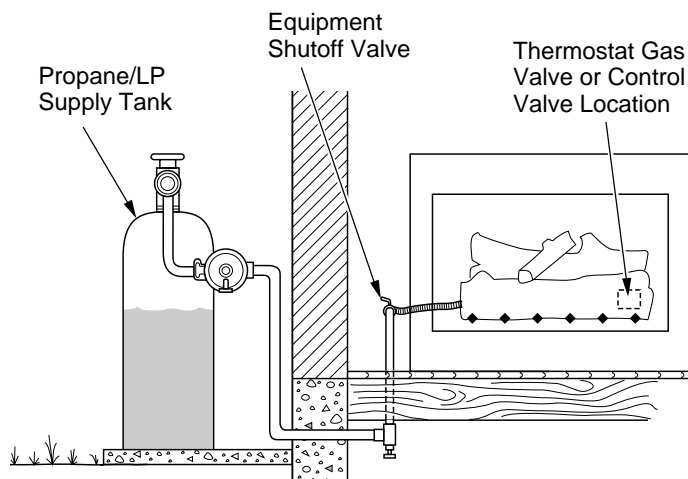

Figure 20 - Checking Gas Joints (Propane/LP Model Shown)
3. Check all joints from gas meter to equipment shutoff valve for natural gas or propane/LP supply to equipment shutoff valve for propane/LP (see Figures 20 and 21, page 15). Apply non-corrosive leak detection fluid to all joints. Bubbles forming show a leak.
4. Check all joints from equipment shutoff valve to thermostat gas valve (Thermostat-Controlled Models), to control valve (Manually-Controlled Models), or to gas control (Remote-Ready Models)(see Figures 20 and 21). Apply noncorrosive leak detection fluid to all joints. Bubbles forming show a leak.